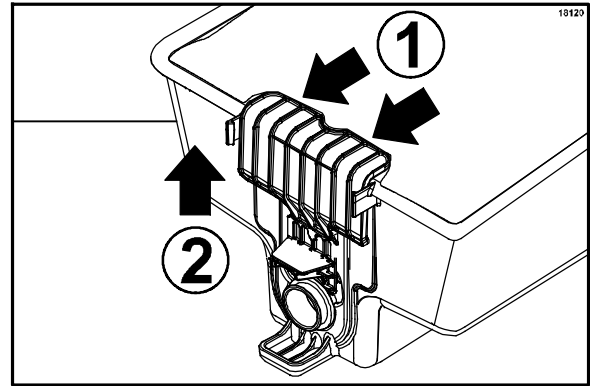

Figure 72
**Note:** To remove the product bag from the bin, move the product bin slide to the “open” position by (1) pulling the slide slightly away from the bin and (2) up, until it stops. (See Figure 72.)